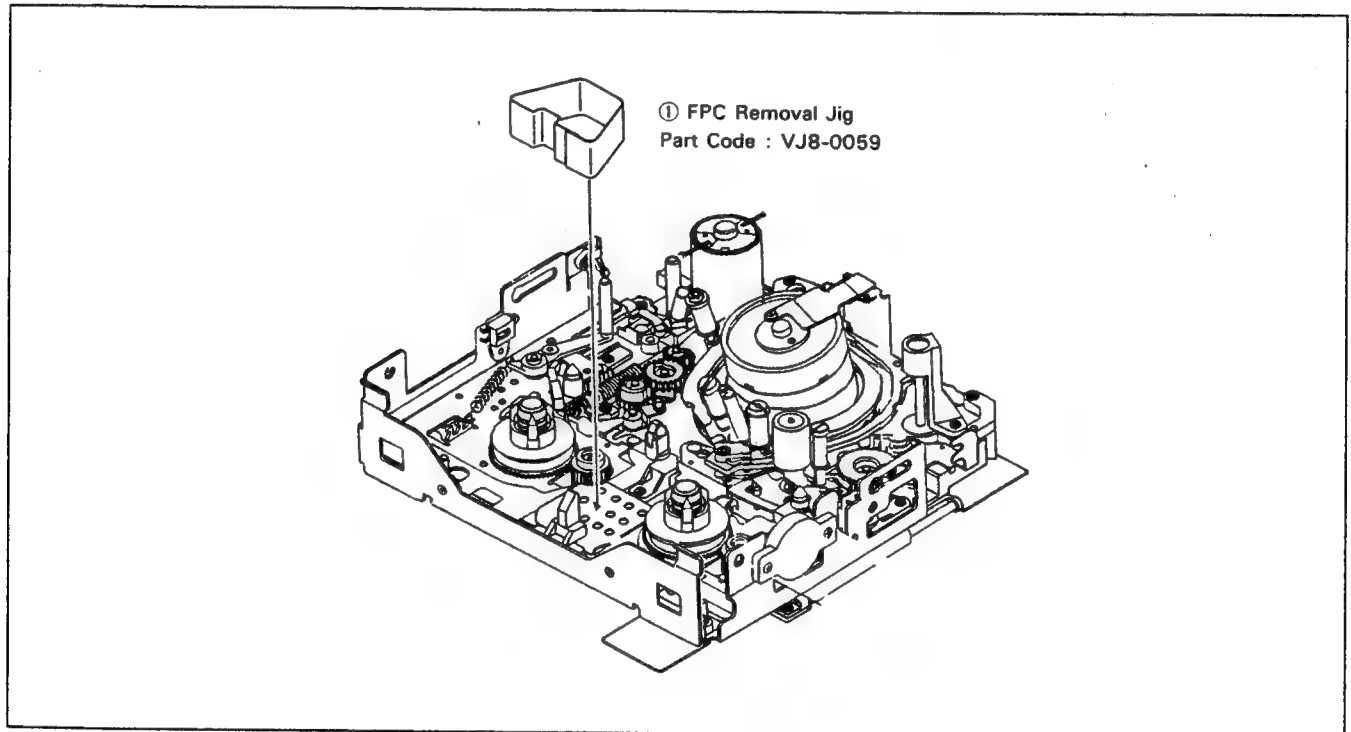

Fig. 2-21.
(See Figs. 2-21. and 2-22.)
FPC's on the mechanism are soldered using FPC removal jig ① shown in Fig. 2-21.